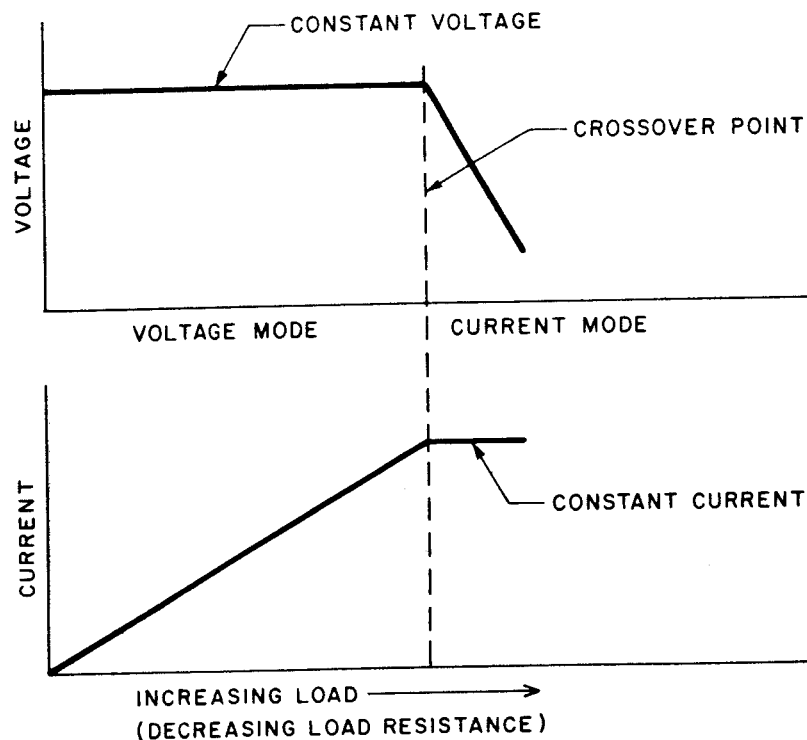

FIGURE 2-1 VOLTAGE AND CURRENT CROSSOVER.
- 2-6 Figure 1-1 shows the preview switch. Presettings may be made with this switch OFF. The value of preset voltage and current is adjusted with the precision controls and read on the respective digital displays. When the preview switch is ON the relation between voltage and current and the crossover point is shown in Figure 2-1. In a practical case the crossover point may not be sharp as shown but will be slightly rounded.